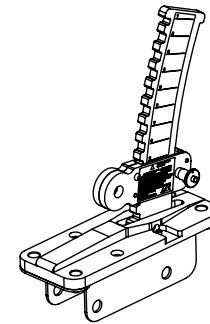

Fig. 4. Remove screws from bracket.
- Remove the four screws that attach the frame bracket to the base of the ground stack bracket; see Fig. 4.